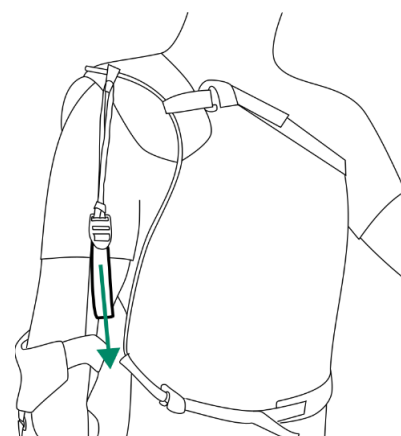

Figure 13
7. Tighten the elastic bands by pulling the band tensioners down as far as possible (Fig. 13).